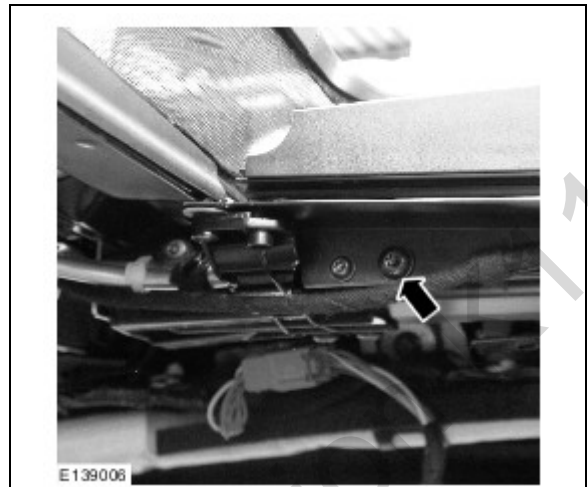

Figure 17
22. Install the Torx bolt and nut. (Figure 17)